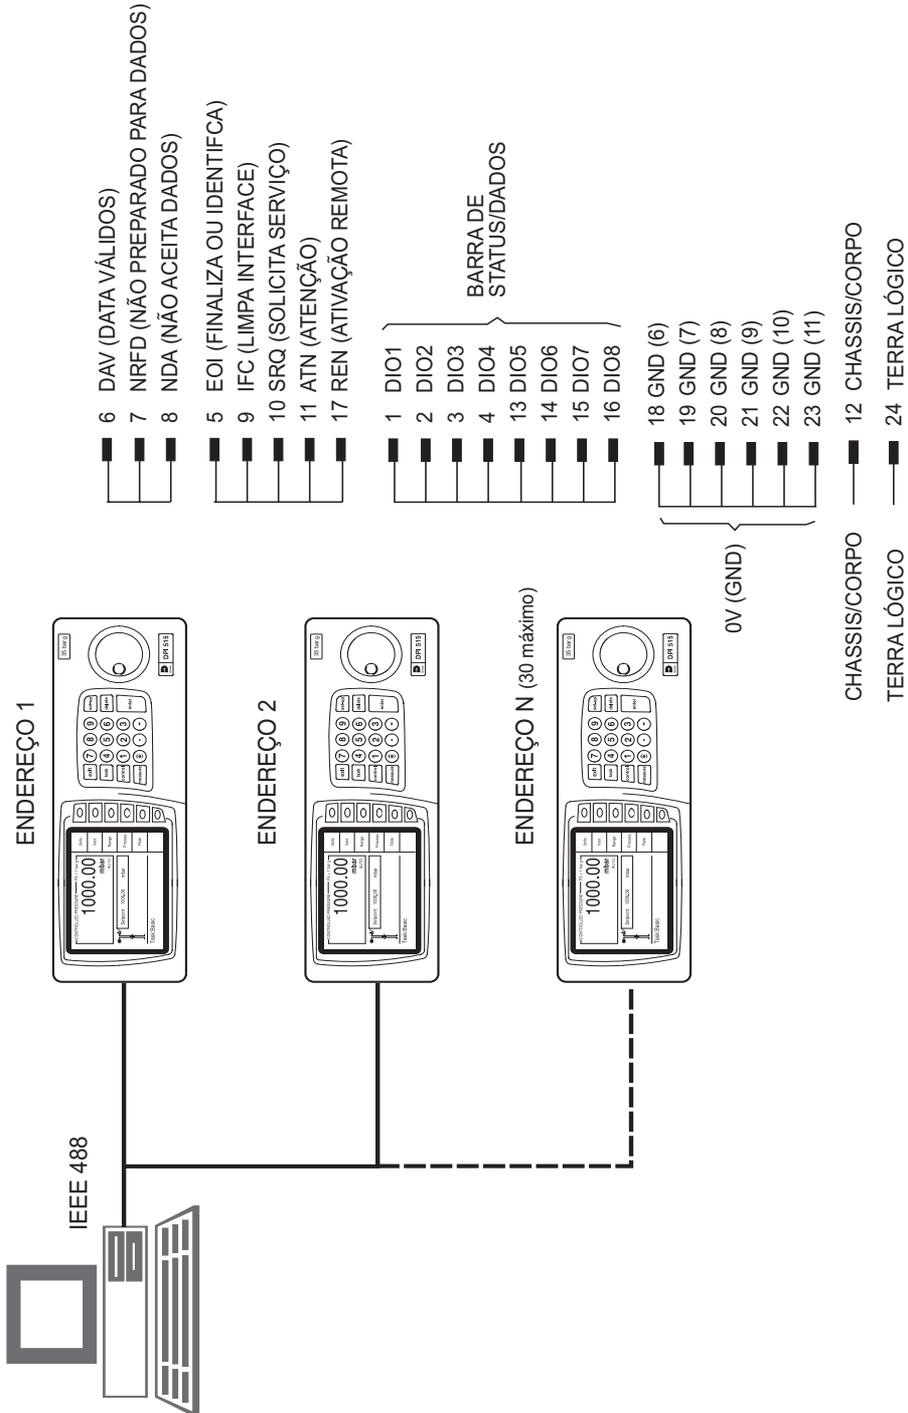

Figura 2-10, Conexão IEEE 488
2.8 Interface IEEE 488 (Figura 2-10)